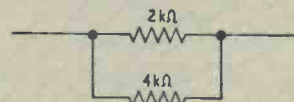

Fig. 7. A  $2\text{k}\Omega$  and  $4\text{k}\Omega$  resistor in parallel
1. Find the effective resistance of a  $2\text{k}\Omega$  and a  $4\text{k}\Omega$  resistor in parallel. (Fig. 7).